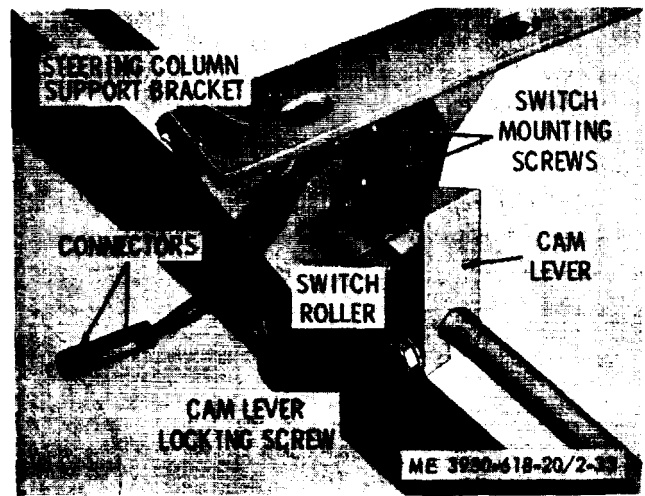

Figure 2-33. Transmission neutral switch. installed view.
a. *General.* The transmission neutral switch is attached to the underside of the steering column support bracket. The purpose of this switch is to prevent the engine from being started unless the direction shift lever is in neutral (N) position. A cam lever attached to the direction shift lever shaft actuates the switch. Always check the cam adjustment (d below) before replacing the switch when starter motor failures have been traced to the switch circuit.
b. *Removal.* See figure 2-33. To remove the switch, disconnect the 2 connectors on the switch leads from their mating connectors and then remove the 2 mounting screws.
(1) Place the direction shift lever in neutral (N) position.
(2) Loosen the locking screw on the cam lever (fig. 2-33) and position the cam lever so the switch roller is at the low point of the cam.
(3) Tighten the cam lever screw, making sure the cam lever does not move.
(4) Check adjustment by attempting to start the engine with the direction shift lever in either forward (F) or reverse (R) position. The starter motor should not operate unless the direction shift lever is in neutral (N) position.